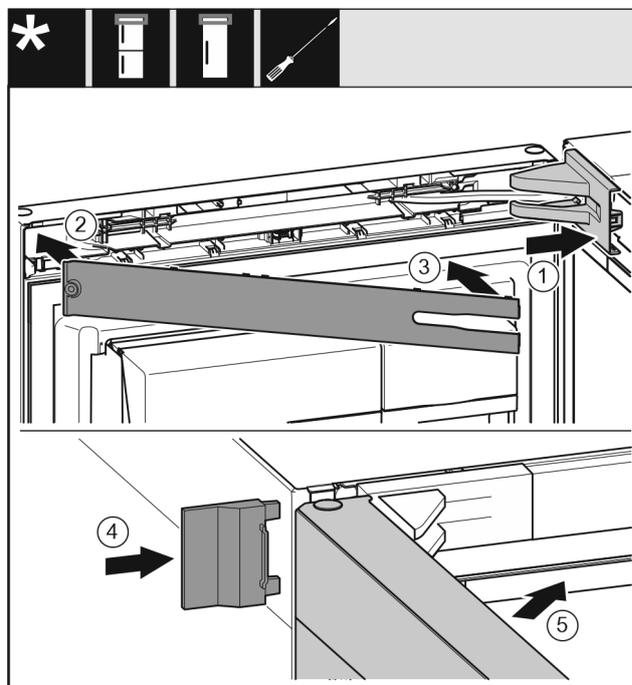

Fig. 73
- ▶ Put the swap bearing block cover Fig. 73 (1) on and engage, push apart carefully if required.
- ▶ Fit the trim Fig. 73 (2).
- ▶ Swivel in the cover Fig. 73 (3) and engage.
- ▶ Push the outer cover Fig. 73 (4) on.
- ▶ Close the upper door Fig. 73 (5).